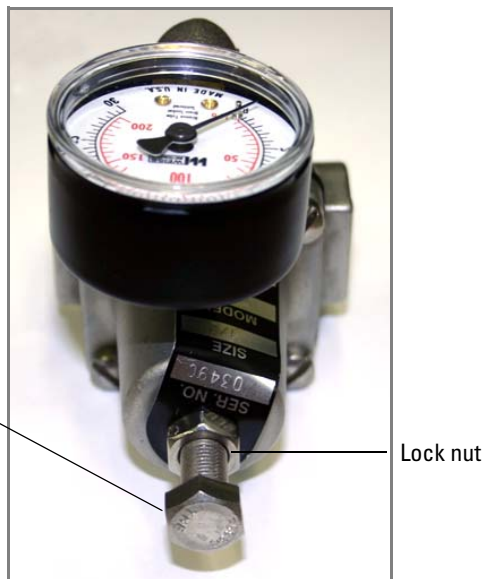

Figure 3: Pressure adjustment
1. Loosen the lock nut located behind the pressure dial (Figure 3).